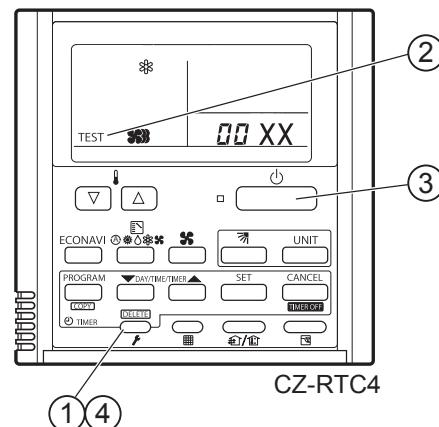

Fig. 2
- ① Press and hold the  button for 4 seconds or longer.
- ② "TEST" appears on the remote controller LCD display (Fig. 2).
- ③ Press the  button to start the test run.